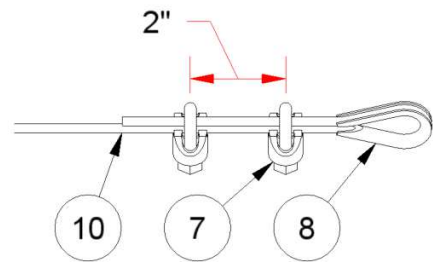

FIGURE: 5 - END CABLE DETAIL
- 3) Make up one end of each of the three cables, as shown in Figure 5. Tighten the cable clamps using a 7/16" nut driver.